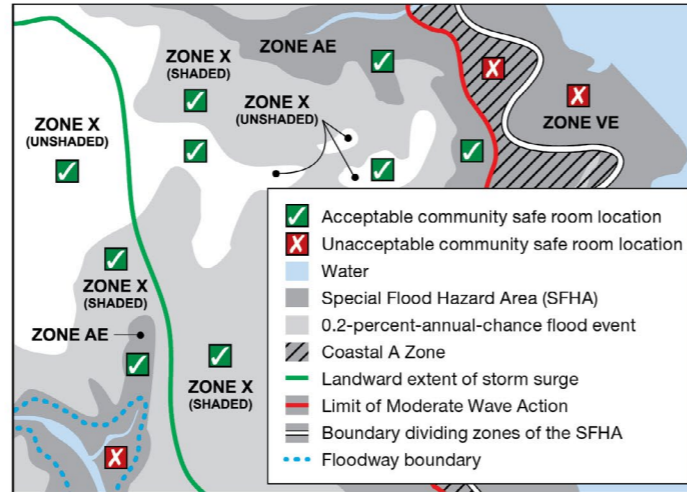
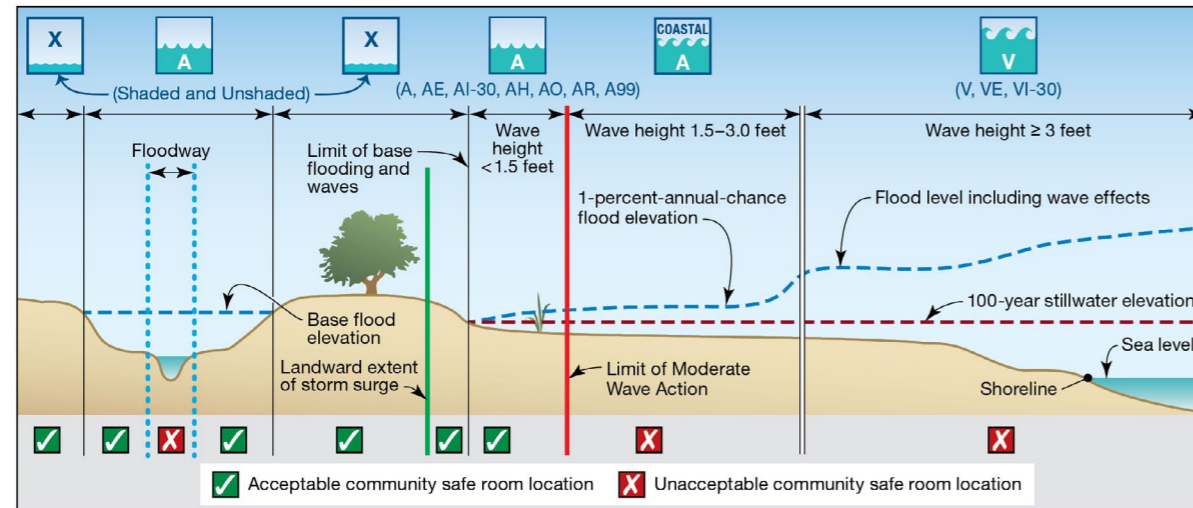

Figure 2. Acceptable community safe room locations, assuming that elevation requirements are met
Figure 3. Typical riverine cross section and shoreline transect showing stillwater and wave crest elevations and associated flood zones
Community safe rooms may be located within Zone V and Coastal A Zones4 where permitted by the Board of Appeals in accordance with the provisions of the International Building Code and after completing the 8-step Decision Process for Executive Order (EO) 11988, as amended, and as provided by Title 44 of the Code of Federal Regulations Part 9.6, Decision-Making Process. Figure 2 shows examples of community safe room locations that FEMA considers acceptable or unacceptable. This figure illustrates high risk flood zones as reflected on a typical Flood Insurance Rate Map. A typical riverine cross section and shoreline transect shown in Figure 3 denote the stillwater and wave crest elevations associated with the flood zones shown in Figure 2.